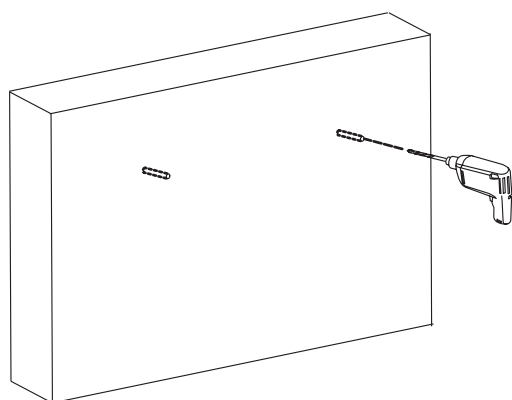

Fig. 3e
1. Place the **Wall Plate (1)** flat against the wall in the desired location. Use the wall plate as a template to mark the location of the four mounting holes on the wall. Make sure that the mounting holes are level and parallel. Make sure the horizontal holes are no closer than 16" (Fig. 3e).